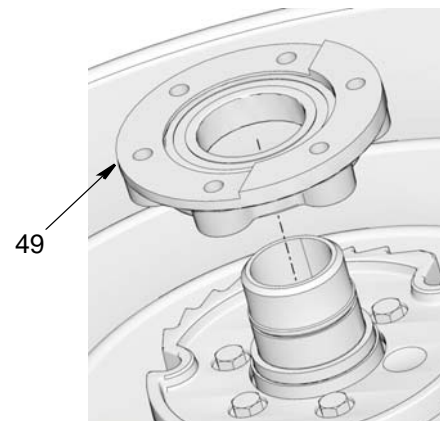

FIG. 33
- a. Slide new bearing retainer assembly (49) onto shaft. Refer to FIG. 33 for the correct orientation of the bearing retainer for assembly.